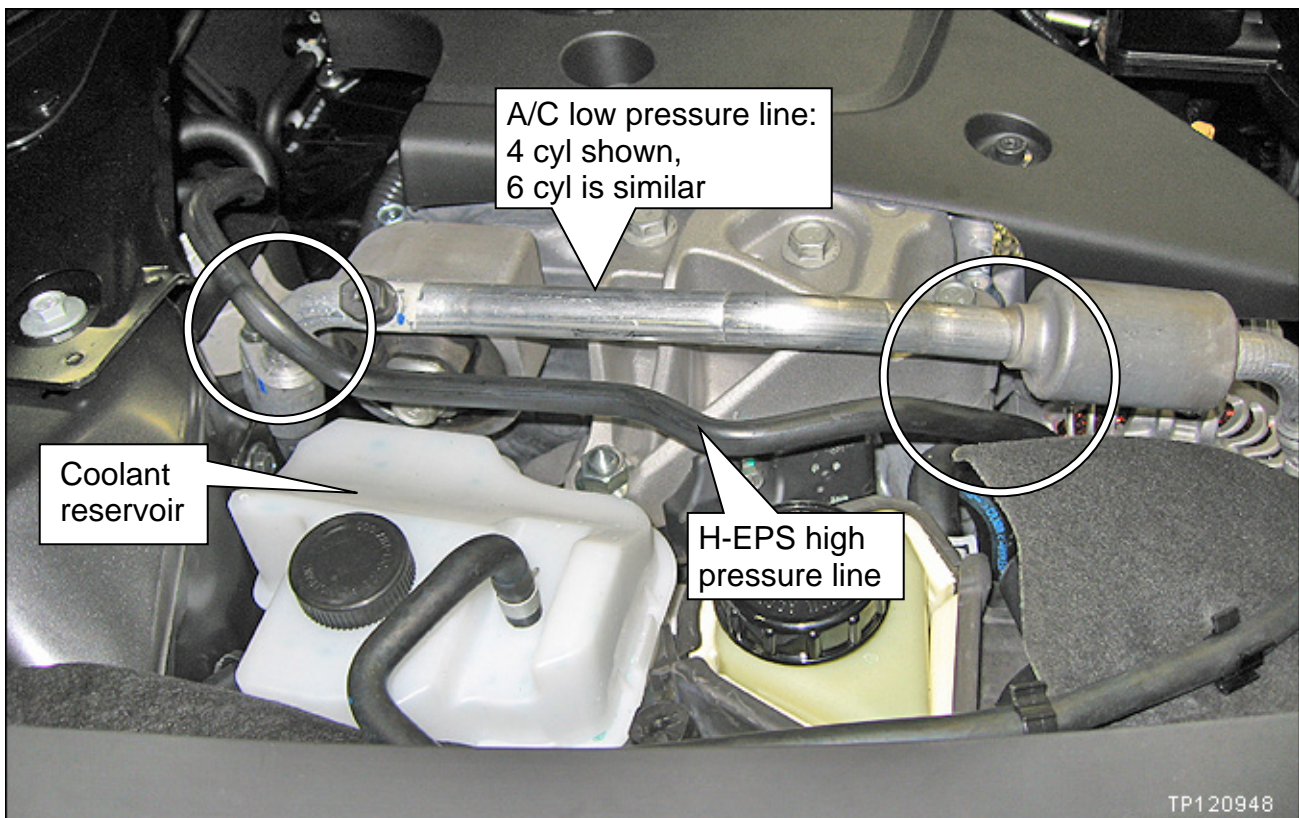

Figure 5
Check the H-EPS high pressure line and the A/C low pressure line. Make sure they are **not** touching each other (see Figure 5).
- a. Check the two locations circled in Figure 5.
Check the H-EPS high pressure line and coolant reservoir. Make sure they are **not** touching each other (see Figure 5).